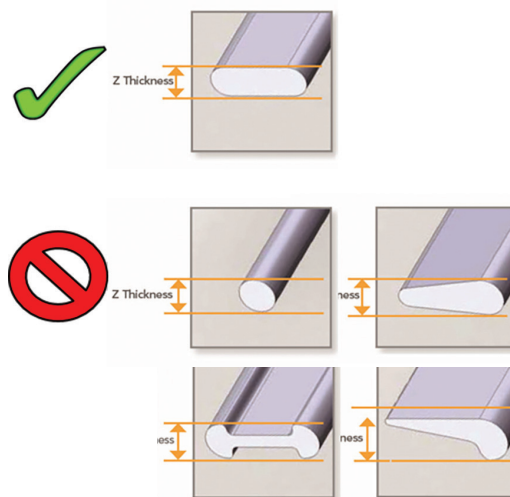

Figure 7: The calibration part used for FDM Nylon 12CF is modified to print faster.
STEP 3: Perform XYZ tip offset calibration. Repeat until the support layer **measurement** is within ± 0.0127 mm (± 0.0005 in). Be sure to inspect the profile and look for flat edges on the top and bottom (Figure 7). Repeat the calibration